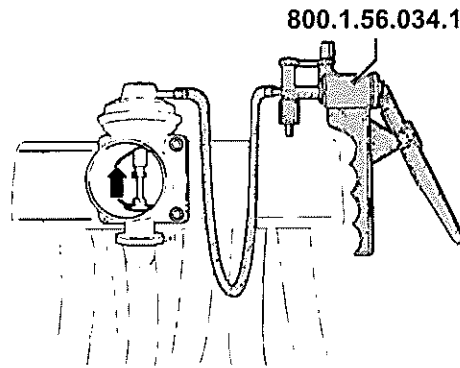

Fig 10 EGR valve connecting hand vacuum pump
- 16.3 Connect hand vacuum pump (see Table 1, Item 4) to EGR valve (see Fig 10).